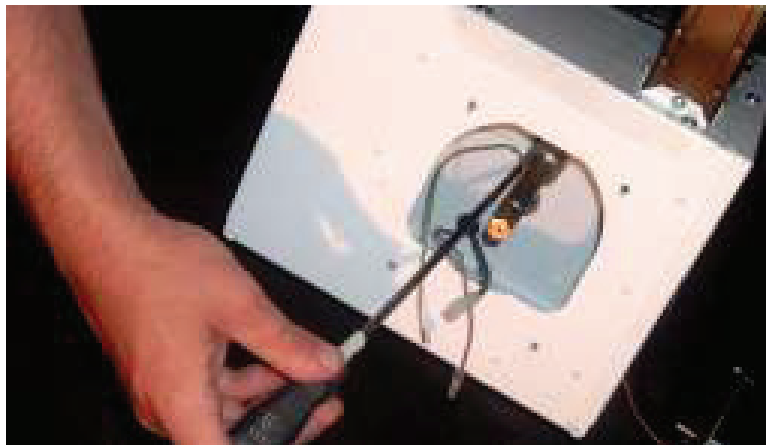

Figure 7. Gas Orifice Replacement for Unit Size 170 Model VPS
- b. For unit size 170 model VPS (see Figure 7):
- (1) Remove and save two screws from base of jet carrier. Note ground terminal connection.
- (2) Remove and save four screws that secure rear burner plate to burner housing and remove plate.
- (3) Using wrench, unthread existing jet carrier/gas orifice from gas valve.
- (4) Thread replacement gas orifice into replacement jet carrier.
- (5) Using approved pipe joint compound and wrench, thread replacement jet carrier/gas orifice into gas valve. **DO NOT** overtighten.
- (6) Re-install rear burner plate to burner housing and secure plate using existing four screws.
- (7) Re-install existing two screws in base of jet carrier. Note ground terminal connection.